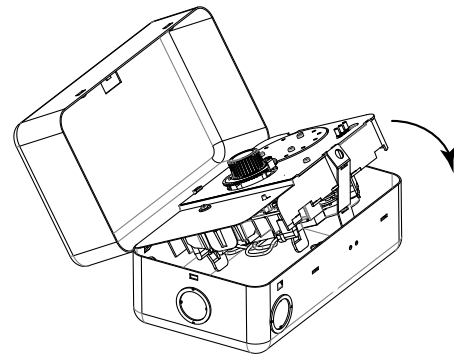
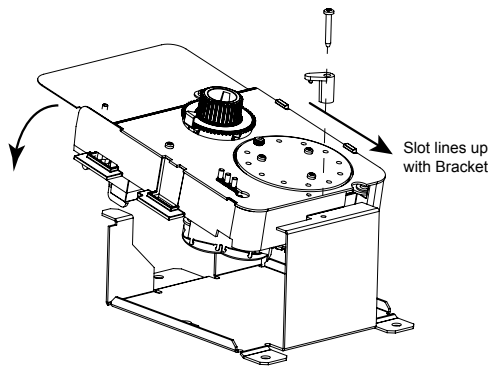

Figure 3. Installing the G8000 Defrost Timer.
Figure 4. Snap Defrost Timer on bracket.
6. Snap the mechanism in the applicable enclosure. See Figure 3.
6. Snap the timer on the bracket as shown in Figure 3, or if applicable, the snap timer on bracket in the enclosure as shown in Figures 4 and 5 on the back.